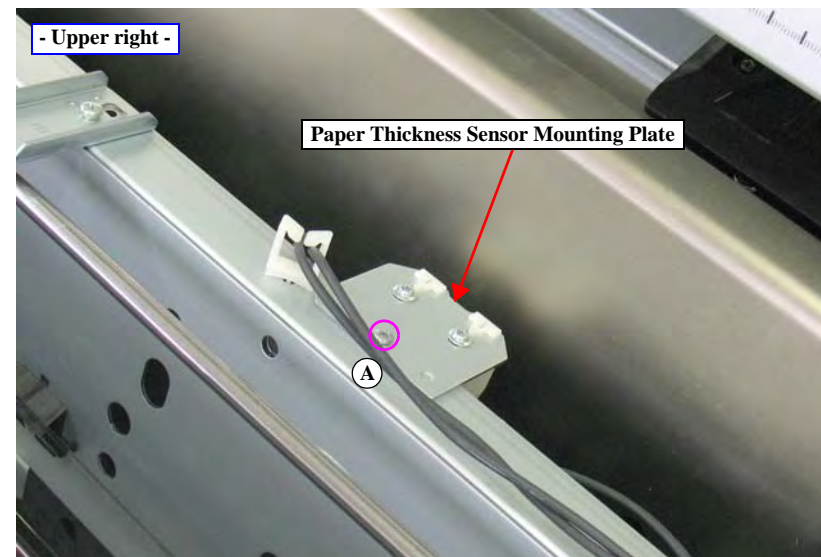

Figure 4-81. Removing the Paper Thickness Sensor Mounting Plate
**NOTE:** There is no Maintenance Tank (L) mounted for the Epson Stylus Pro 7700/7710/7900/7910/WT7900/WT7910.
9. Remove the screw that secures the Paper Thickness Sensor Mounting Plate, and remove the Paper Thickness Sensor Mounting Plate. *See Figure 4-81.*
*NOTE: There is no Maintenance Tank (L) mounted for the Epson Stylus Pro 7700/7710/7900/7910/WT7900/WT7910.*
6. Remove the two screws that secure the Driven Roller Release Motor, and remove the Driven Roller Release Motor. *See Figure 4-81.*